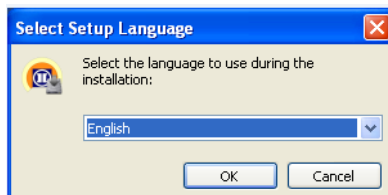

Fig 2-1 Select the language for an installer
3. As shown in Fig 2.1 click "ok", then displays the screen of the installation location of Area Designer. If there is no particular specification then, click "next".